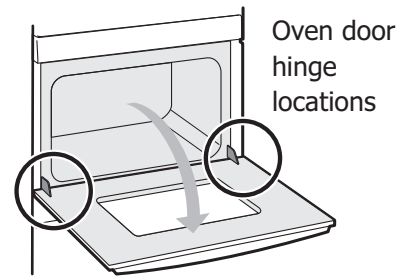

Figure 39: Door hinge location
3. Fully open the oven door, horizontal with floor (Figure 39).